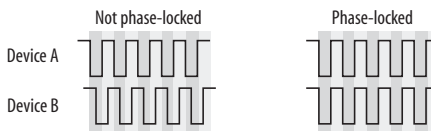

Figure 3-6: When transferring audio, two devices must have phase-locked audio clocks to prevent clicks, pops or other artifacts.
- Synchronizing the 896mk3 with other digital audio devices so that their digital audio clocks are *phase-locked* (as shown in Figure 3-6)